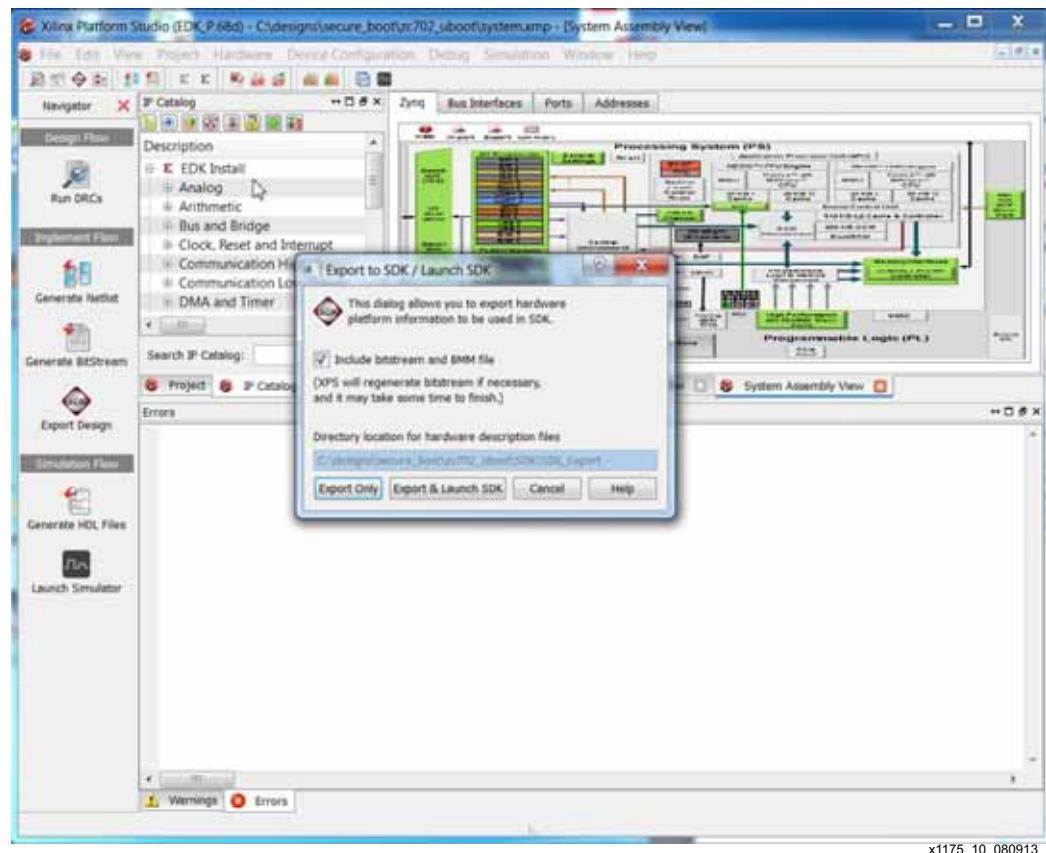

Figure 12: Exporting Hardware Design to SDK
4. As shown in Figure 12, enter **Project > Export Hardware Design to SDK** to invoke the project and launch Software Development Kit (SDK). Select “**Include bitstream and BMM file**.” If run with the default option to create the bitstream, this step can take 10 minutes. A status icon is displayed in the lower-right corner of XPS during this time.